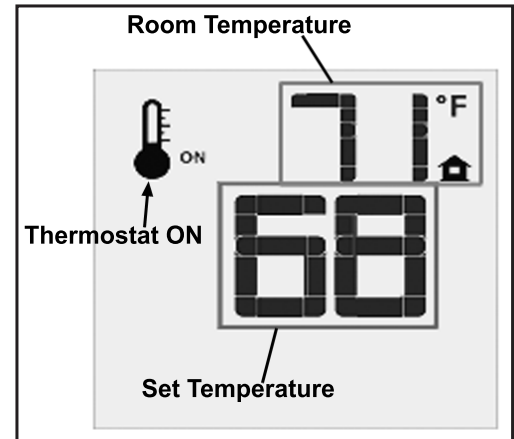

Figure 10: Remote Control Displays Set Temperature.
Press the ON/OFF Key on the Transmitter. The Transmitter LCD display will only show the room temperature and Icon (see Figure 10). A single "beep" from the IFC confirms reception of the command and both the pilot light (if the unit is not set to continuous pilot) and main burner will turn off.
The Remote Control can operate as a room thermostat. The thermostat can be set to a desired temperature to control the comfort level in a room. To activate this function, press the Thermostat Key (see Figure 5). The LCD display on the Transmitter will change to show that the room thermostat is "ON" and the set temperature is now displayed (see Figure 10). To adjust the set temperature, press the Up or Down Arrow Keys until the desired set temperature is displayed on the LCD screen of the Transmitter.
3. Then remove the six screws that hold the valve cover in place (pointed out in Figure 10).